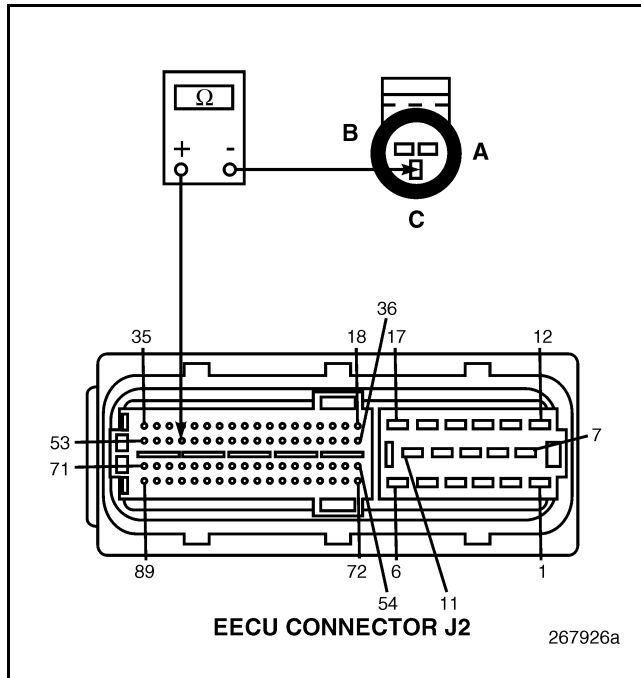

Figure 185
4. Check for continuity between BAP Sensor harness connector pin C (signal line) and EECU harness connector J2 pin 50 (see Figure 185).